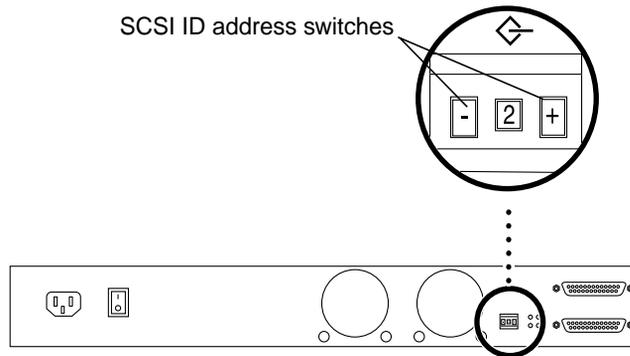

FIGURE 3-20 SCSI ID Switch on the Back of the Array (AC Version)
1. At the back of the array, locate the SCSI ID switch (FIGURE 3-20).